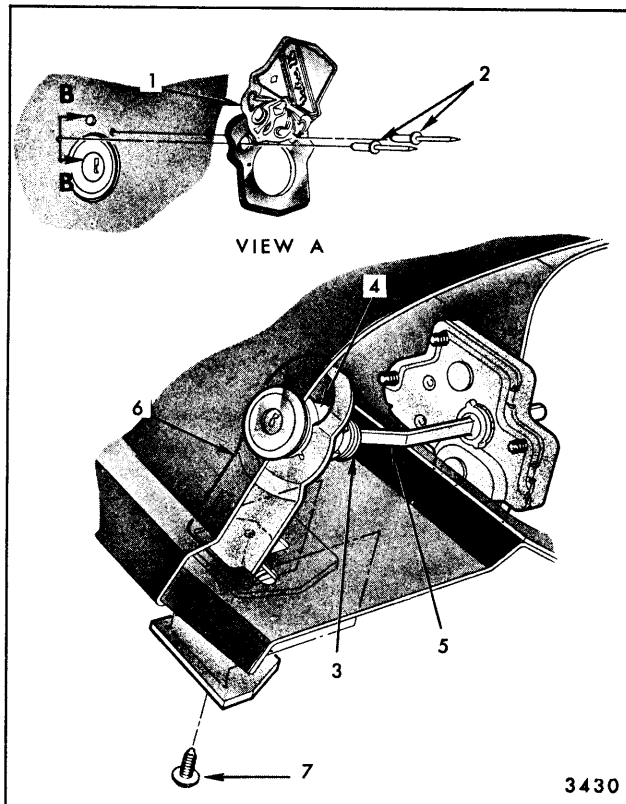

Fig. 8-21—Buick "C" Body Styles
5. On Buick "C" styles, the rear compartment lid emblem is attached with pop-rivets that are of standard size and available as Service Parts. The rivets must be drilled out to remove emblem. After removal of emblem, the lock cylinder retainer can be removed as shown in Figure 8-21.